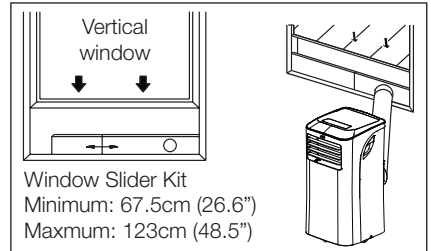

Fig. 8
5. Affix the adaptor B into the window slider kit and seal. (Fig. 8 & 9)